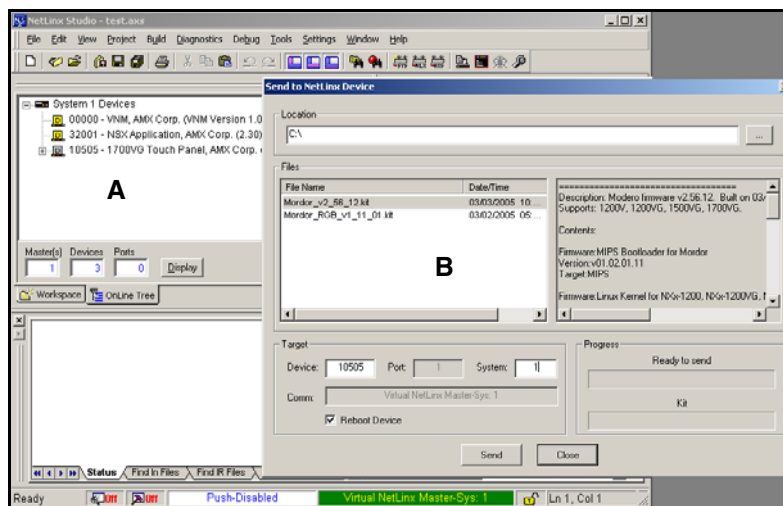

FIG. 57 Using USB for Virtual Master communication
4. Right-click on the System entry (**A** in FIG. 57) and select **Refresh System**. This causes a refresh of all project systems, establishes a new connection to the Virtual Master, and populates the System list with devices on your particular system.